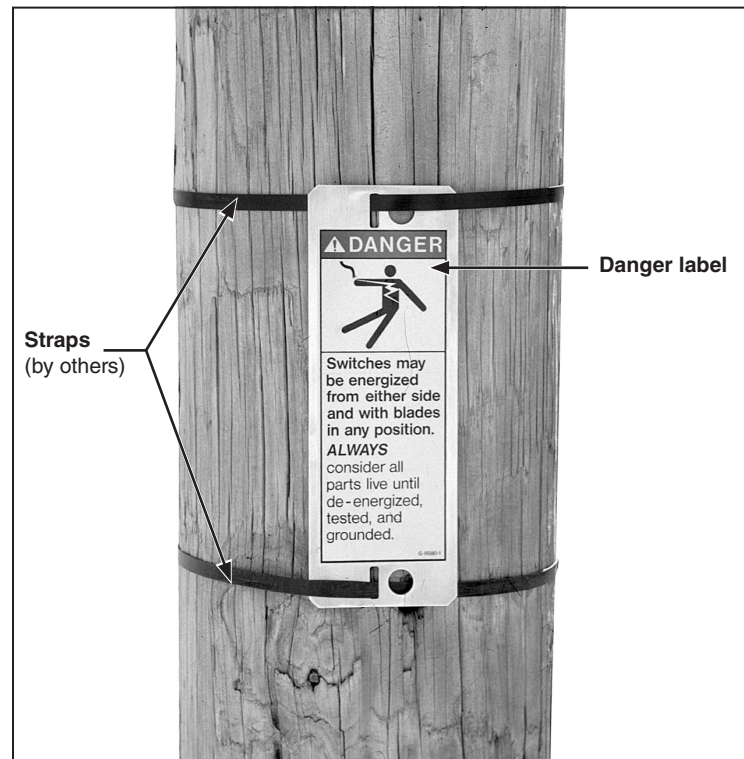

Figure 47. Attaching the danger label to the pole or structure.
STEP 35. Attach the danger label to the pole or structure using two straps or bolts (furnished by others). See Figure 47.